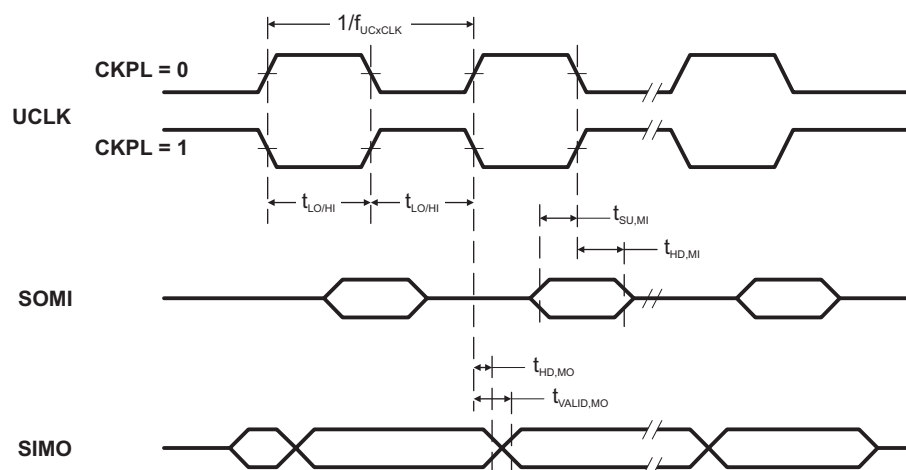
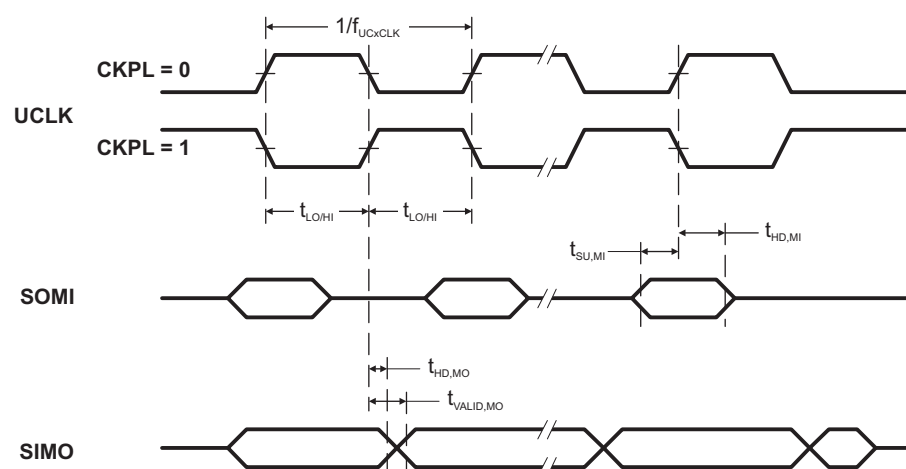

Figure 11. SPI Master Mode, CKPH = 0
Figure 12. SPI Master Mode, CKPH = 1
(see Note ⁽¹⁾, Figure 11 and Figure 12)
- (2) Specifies the time to drive the next valid data to the SIMO output after the output changing UCLK clock edge. See the timing diagrams in Figure 11 and Figure 12.
- (3) Specifies how long data on the SIMO output is valid after the output changing UCLK clock edge. Negative values indicate that the data on the SIMO output can become invalid before the output changing clock edge observed on UCLK. See the timing diagrams in Figure 11 and Figure 12.
(2) Specifies the time to drive the next valid data to the SOMI output after the output changing UCLK clock edge. See the timing diagrams in Figure 11 and Figure 12.
(3) Specifies how long data on the SOMI output is valid after the output changing UCLK clock edge. See the timing diagrams in Figure 11 and Figure 12.